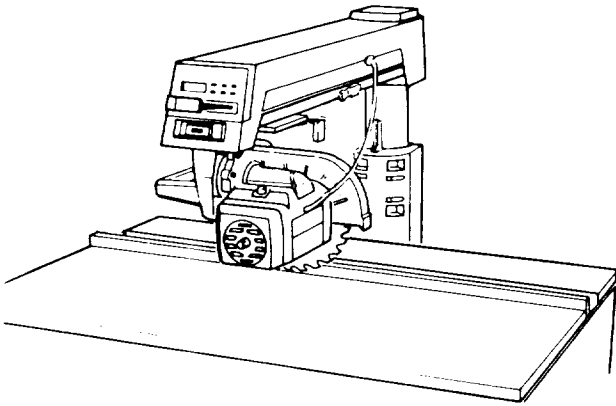

Fig. 103 - In-Rip Position
5. Unlock the *swivel lock* and turn the *motor* to the in-rip position, with the *blade* between the *motor* and the *fence*. (Figure 103)